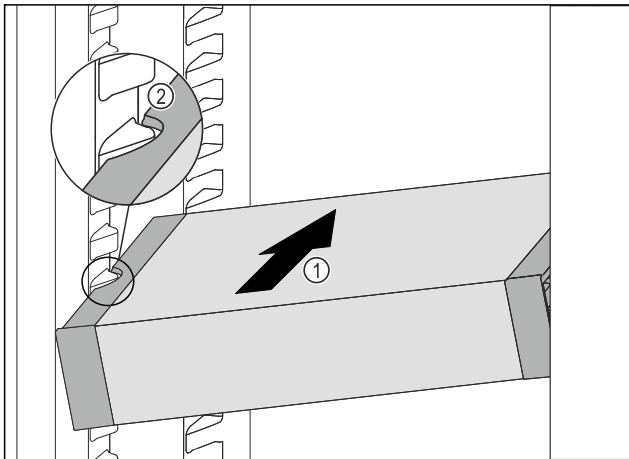

Fig. 116
- ▶ Insert the VarioSafe into the fridge section at an angle Fig. 116 (1) until the recesses in the side Fig. 116 (2) of the VarioSafe are at the level of the support rib in the fridge section.